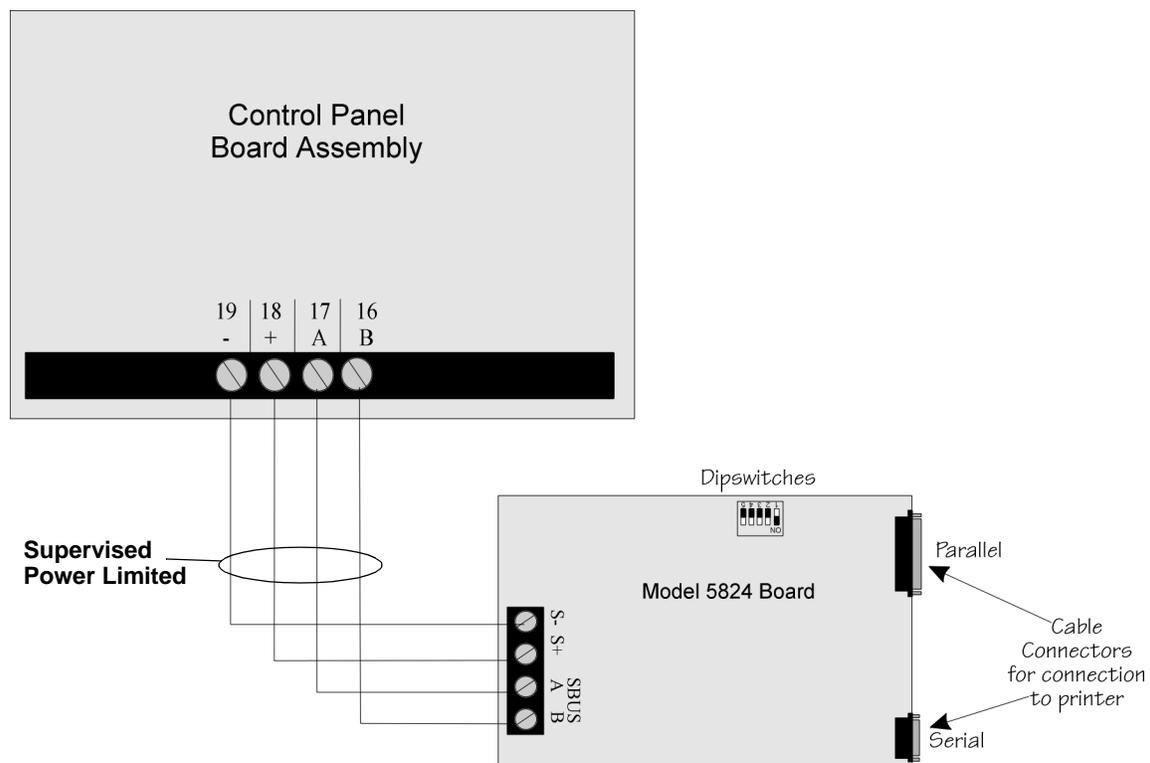

Figure 4-24 5824 Connection to the Panel
2. Connect the 5824 to the panel as shown in Figure 4-24.